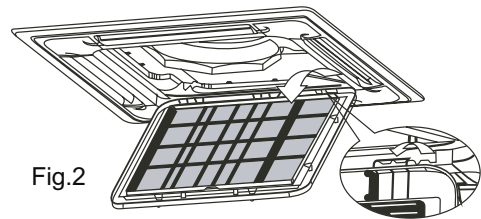

Fig.2
- 2** Pull down the grille till opening it by 45°, then push the grille and the filter upwards to detach them from the Unit's body (see Fig.2).